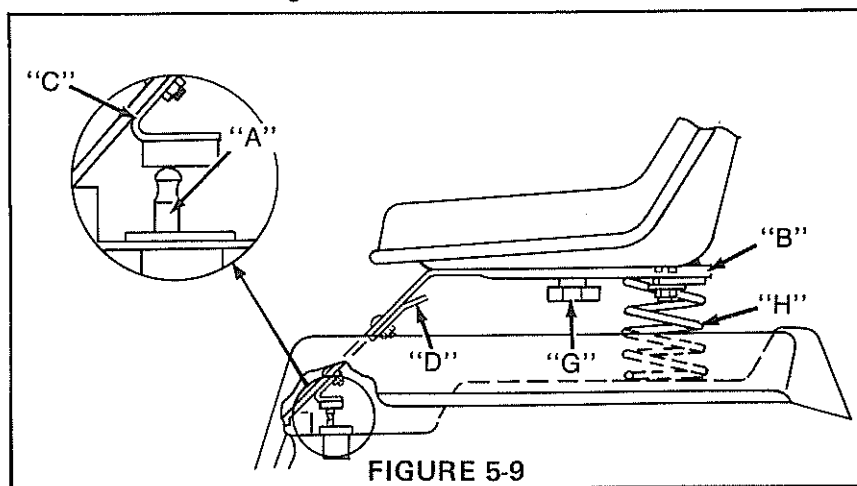

FIGURE 5-9
To adjust seat, loosen knobs (G) Figure 5-9 beneath seat and slide seat forward or back. For different spring suspension, twist spring (H) to loosen. Slide spring to the front for light operators or back for heavy operators. Twist spring to tighten.
(ALL MODELS EXCEPT 1458-01) (Figure 5-9)
2. The second switch is below the seat, (A), Figure 5-9. This switch should be activated when back edge of seat support (B) is depressed $5/8$ " (16 mm). If not, loosen bracket (C) and move to correct location. The switch can also be activated by raising the seat and lifting the interlock button UP.